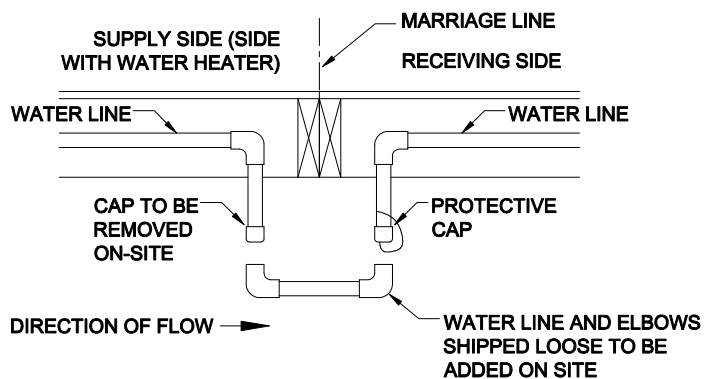

Figure 46. Water line crossover through bottom board
2. **Connect pipes.** Connect threaded water lines using flexible pipe or a rigid connector line (if provided) and connector fittings (do not use lubricants or sealants) (**Figure 46**).